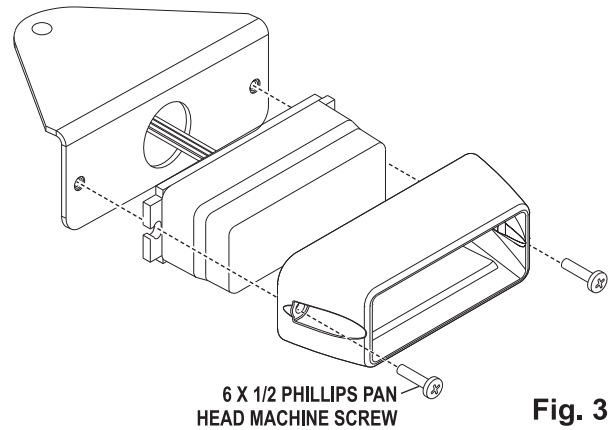

Fig. 3
6. Secure lighthoods to lighthouse brackets using lighthouse flanges and hardware (Fig. 3). Light heads, flanges and hardware are customer supplied.